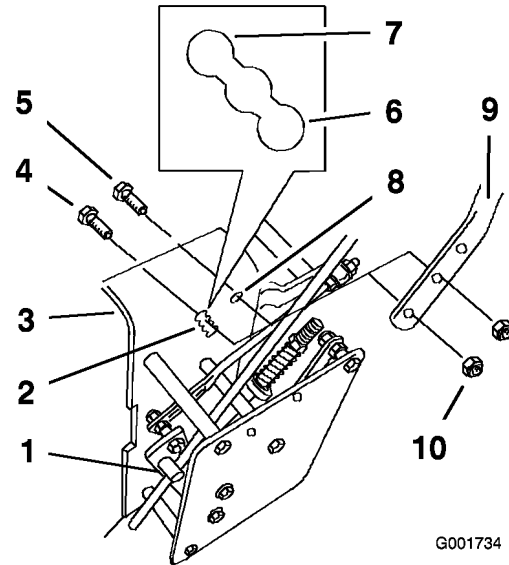

Figure 22
- Loosen the upper flange bolts (3/8 x 1-1/4 inch) and flange nut securing handle to rear frame (Figure 22).
- Remove the lower flange bolts (3/8 x 1 inch) and flange nuts securing handle to rear frame (Figure 22).